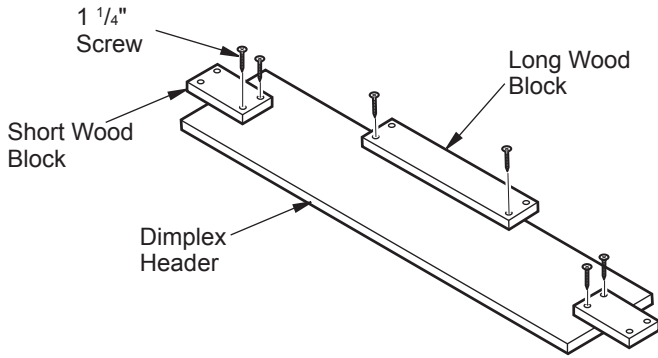

Figure 5 - Attaching Blocks to Dimplex Header
3. Using 1 1/4" screws provided, attach short blocks to both ends of Dimplex header (see Figure 5, page 3).
4. Using 1 1/4" screws provided, attach long block to top edge of Dimplex header (see Figure 5, page 3).